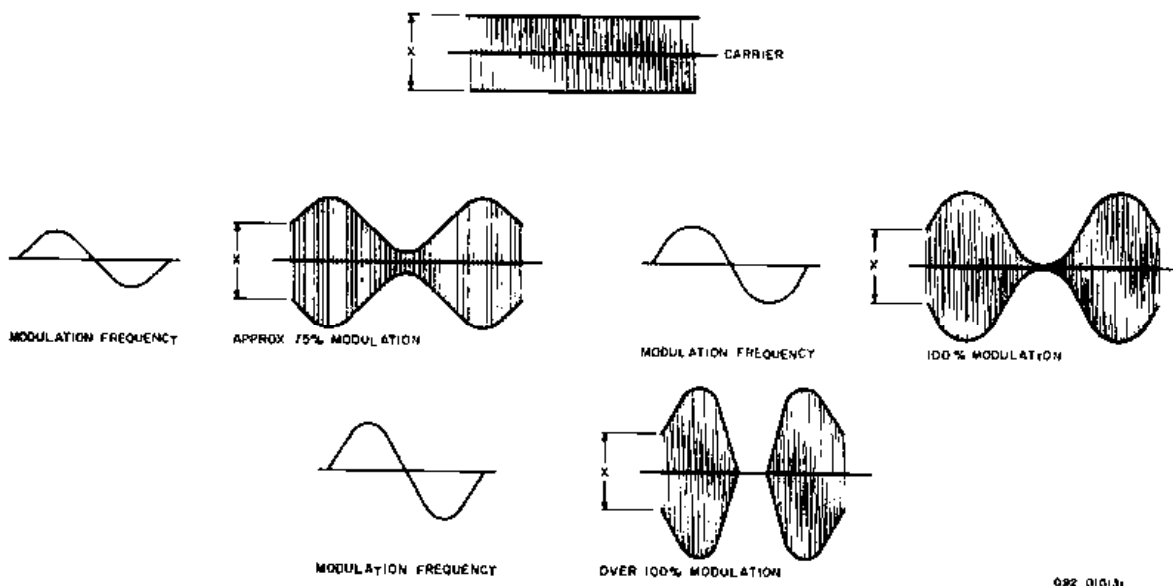

Figure 7. Carrier Modulation Patterns
3. While talking in a normal voice level two to three inches from the microphone and observing the meter, advance the **MIKE** control clockwise until a peak indication is observed during "talk" periods which is slightly below the indication noted in step 11 of paragraph 5-2. This provides 75% to 90% **AM** modulation. Refer to figure 7 for modulation patterns if it is desired to use a scope.